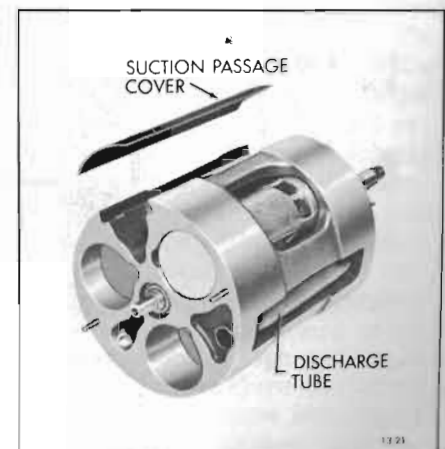

Figure 13-21—Suction Passage and Discharge Tube
8. Suction Pass Cover and Seal--The suction pass cover fits over a suction passage (see Figure 13-21) in the body at the cylinder assembly. Low pressure vapor flows from the suction port through the suction passage in the cylinder assembly, and into the suction cavity of the front head.